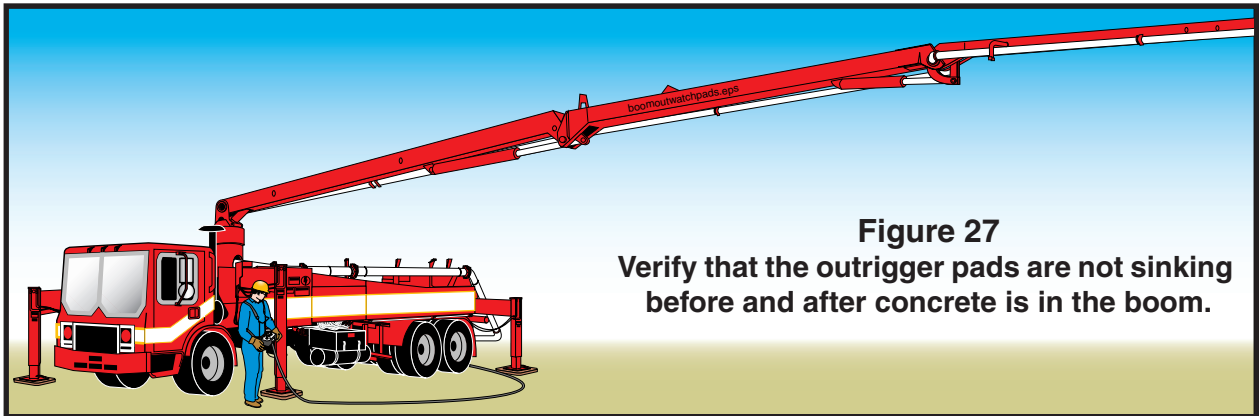

Figure 27
6.25 **⚠ WARNING** Tipping hazard! Regardless of whether you know the load bearing capacity of the soil or not, you must test your setup by slowly moving the empty boom over each outrigger (Figure 27). If the outrigger begins to sink, retract the boom or move it back in the direction from which it came, until the weight of the boom is removed from the outrigger. Add more cribbing under the outrigger pads and retest until the outriggers are stable. When you put concrete in the boom, again check the outriggers for sinking. Continue to add more cribbing until the soil can support the load. After the pour begins, continue to check the outriggers for sinking throughout the course of the day. The stability of the unit **must** be ensured.